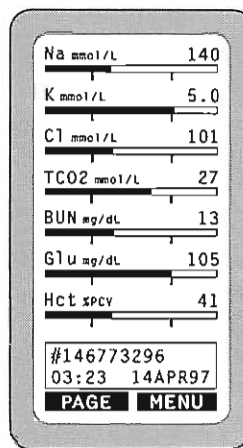

Figure 2
Step 4 - Verify that the patient parameters input into the Analyzer are correct. Press the YES key to permanently save the information. To return to the results page, press the PAGE key. When the test cycle is complete, the CPB hematocrit will be displayed as ,CPB". (See Figure 2) This indicates that the CPB compensation has been applied. The hemoglobin level is calculated from the hematocrit and will be displayed as "Hb,CPB".